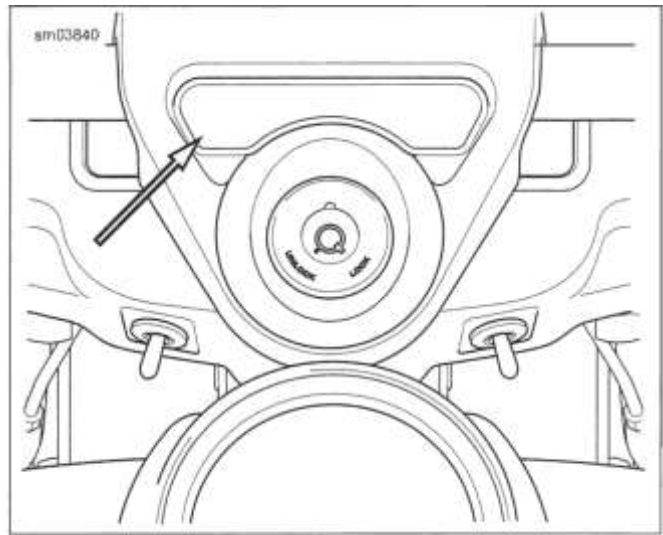

Figure 3-148. Decorative Plate: Road King
- a. See Figure 3-148. Remove decorative plate.